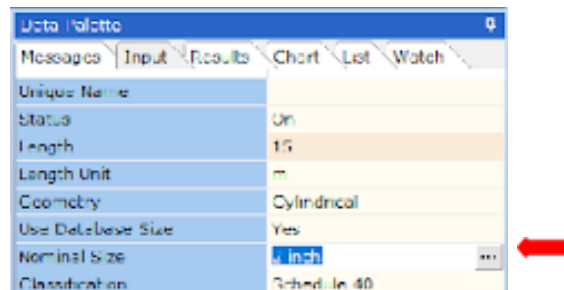

**Figure 20: Highlighted Pipe “-2”.**
19. Let us now edit the default discharge pipe data by selecting pipe number -2. You should now see that pipe number -2 is highlighted on the flowsheet (Figure 20).